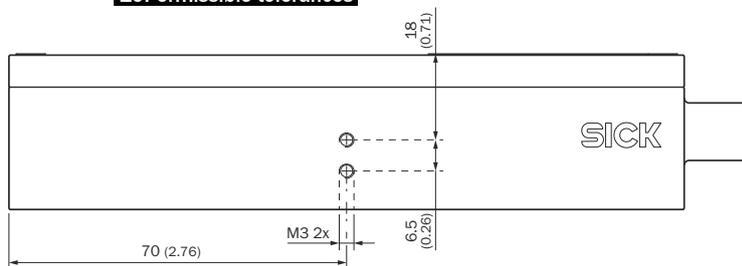

Figure 5: Side hole view 1
**6.6 Mounting the NCV50 with SPEETEC mounting bracket and adjustment bracket (Fig. 5)**
- ▶ Loosely mount the sensor ① on the mounting bracket ② using the supplied M4x8 screws ③ with M4 washers ⑨ as described in **Mounting the sensor**.
- ▶ Fasten the adjustment bracket ⑦ to the thread next to the "Config" connection on the sensor ① using the supplied screw ⑧.
- ▶ Place the unit with the contact surface of the adjustment bracket ⑦ onto the surface being measured ④ and loosely fasten it to the application ⑫.
- ▶ Align the measurement edge ⑬ of the contact surface of the adjustment bracket ⑦ parallel to the movement direction.
- ▶ If necessary, position the measurement point ⑤ of the sensor at the desired location. The measurement point is identifiable on the adjustment bracket as the intersection of the measurement edge ⑬ under the window of the sensor and the mark ⑭ on the bracket.
- ▶ Once the sensor has been correctly aligned, fasten the mounting bracket ② to the application ⑫ using two M6 screws ⑩ and M6 washers ⑪.
- ▶ Next tighten the three M4x8 screws ③ on the mounting bracket ② using a tightening torque of 1.5 - 2 Nm.
- ▶ To avoid damage to the material, the adjustment bracket must be removed before commissioning the machine. To do so, loosen the screw ⑧ and then remove the adjustment bracket